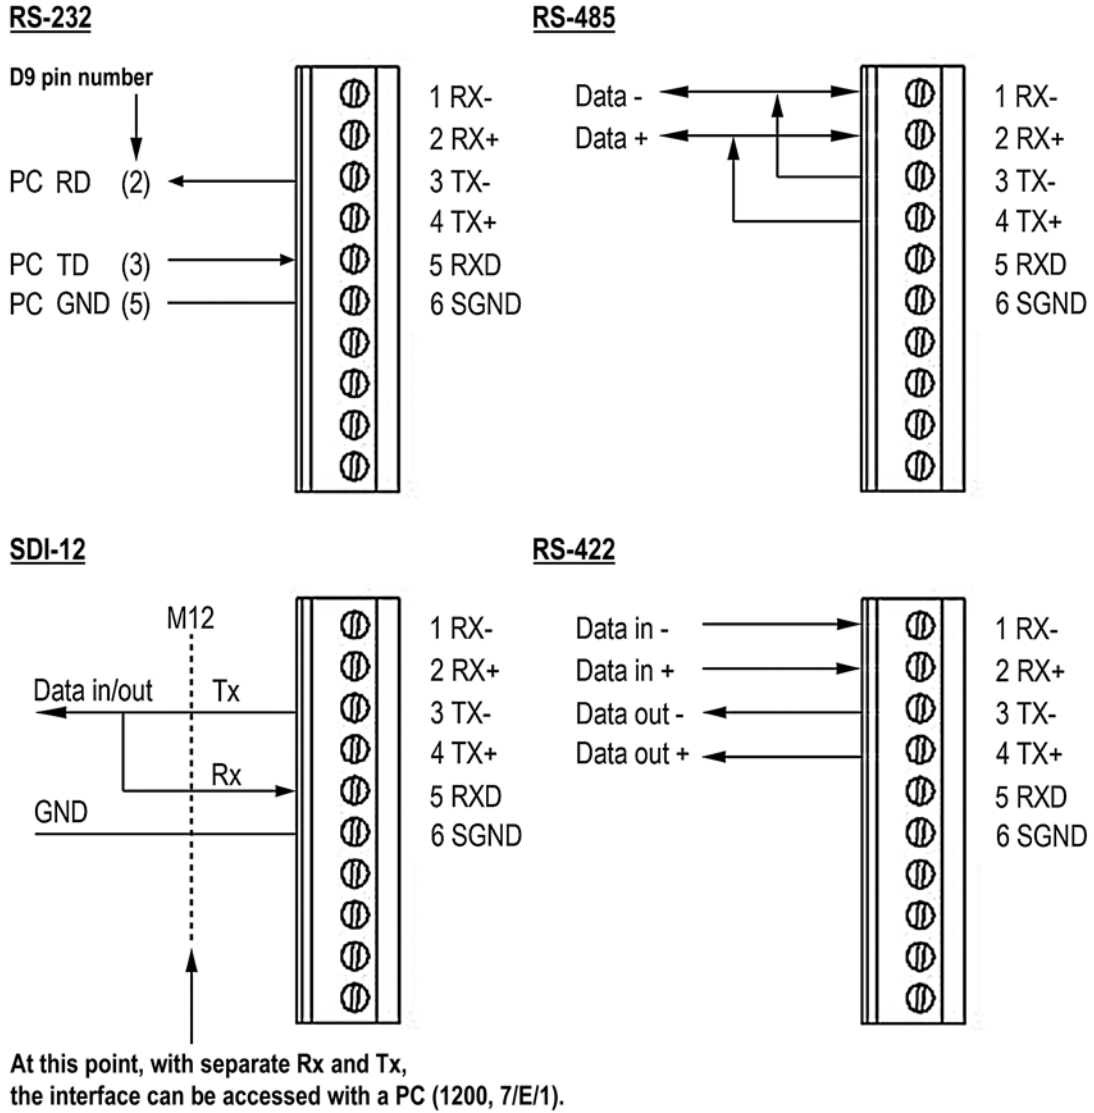

Figure 25 Data Communication Interfaces
- **SDI-12 Native mode** (M=S, C=1) has the lowest standby consumption, about **0.1 mA**. Note that it can also be used with RS-232 terminals (PC or equivalent), see the SDI-12 connection diagram in Figure 25 on page 50. In this case the commands must be in SDI-12 format, but no special line break signals are required. The SDI-12 mode is for polling only.